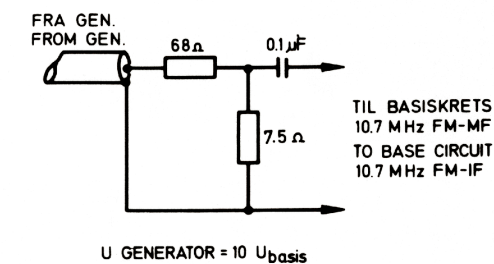

Fig. 3.21 AC - Spenningsdeler
tilført (applied) M2 via 0.1  $\mu$ F (Fig. 3.21).
(2)	$U_{in}$ applied to M2, 3, 4 or 5 via voltage divider on Fig. 3.21. Note! The voltage on circuit diagram refers to generator voltage. $f = 10.7 \text{ MHz}$ , $\text{dev.} = \pm 22.5 \text{ kHz}$ . $U_{out} = 6.0 \text{ mV}$ unloaded (3.5 mV loaded with 47 k $\Omega$ ) at M20 or 12 mV at M8.
(3)	Reference voltage after the FM - detector ( $U_{in}$ applied to M2, 3, 4 or 5).
(4)	Reference voltage after the FM - decoder/decoder equivalent. ( $U_{in}$ applied to M2, 3, 4 or 5).
(5)	Reference voltage at Tape or Aux output unloaded and loaded with $R = 47 \text{ k}\Omega$ ( $U_{in}$ applied to M2, 3, 4 or 5).